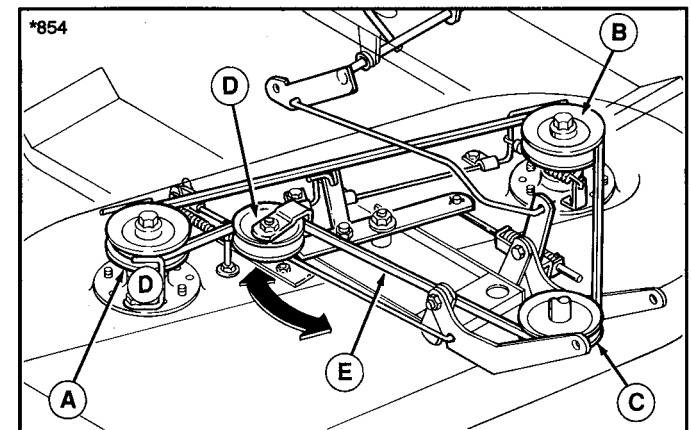
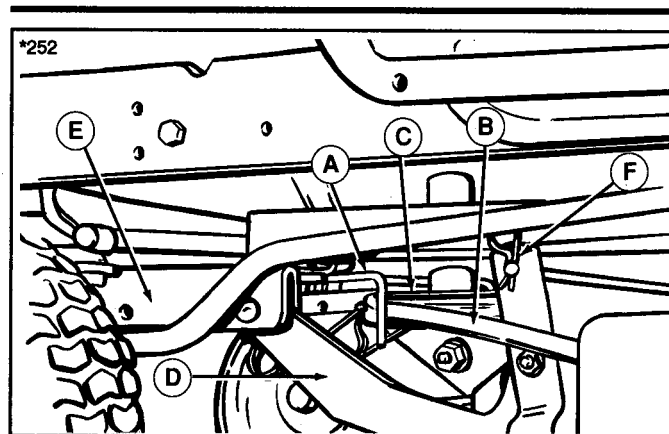
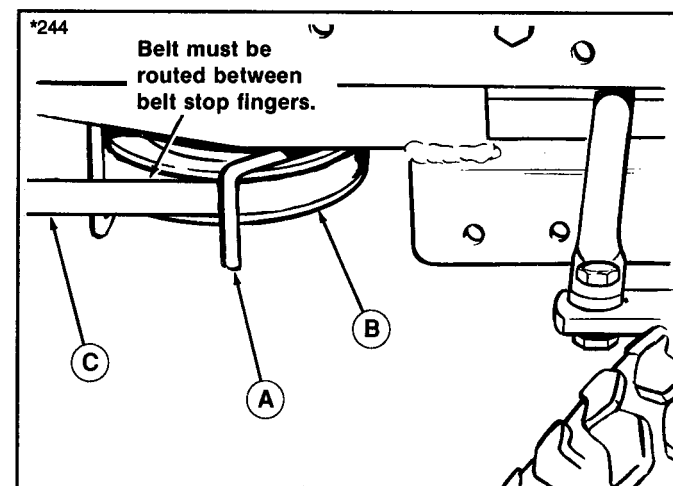

Figure 4. Mower Belt Pattern
Figure 5. Left-Hand Belt Stop
Figure 6. Right-Hand Belt Stop
6. Slip the mower drive belt (E, figure 4) onto the PTO pulley (C). Loosen belt stops as necessary. The left-hand belt stop (A) is shown in figure 5. The right-hand belt stop (A) is shown in figure 6. Make sure the belt stop is routed between belt stop fingers as shown in figure 6.
7. Make sure the belt is properly installed on the mower pulleys. The belt pattern is shown in figure 4.